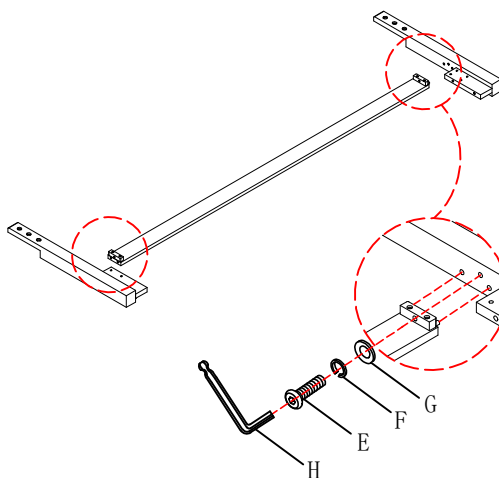

Figure 1
1. Attach stretcher to the side panel with Allen bolt (E), Lock Washer (F) and Flat Washer (G). Tighten all bolts with Allen Wrench (H) as shown in Figure 1